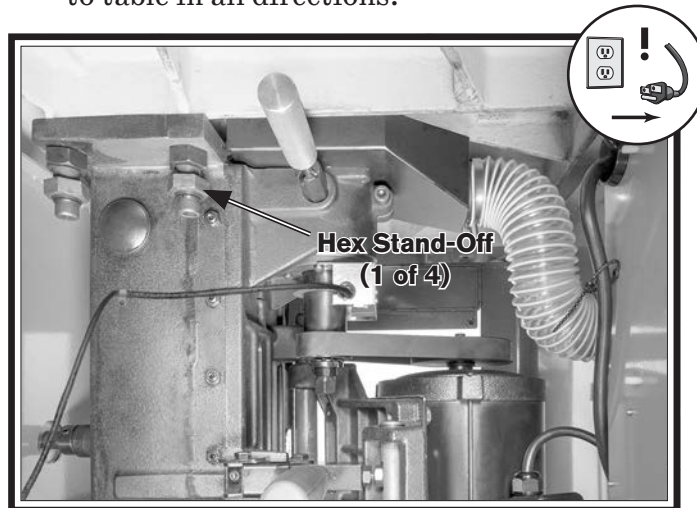

Figure 102. Location of spindle tilt hex stand-offs.
8. Adjust hex stand-offs shown in **Figure 102** by small increments until spindle is square to table in all directions.